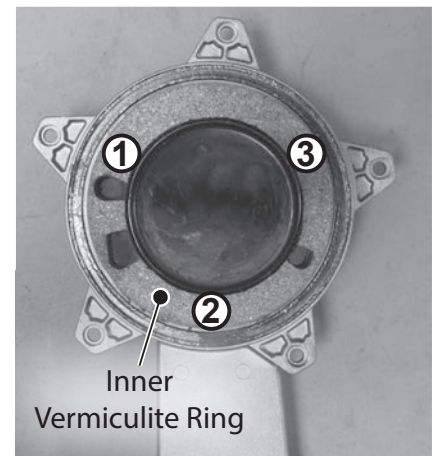

Figure 120 - Remove inner vermiculite ring
- 18** Locate the three (3) screws securing the inner vermiculite insulation ring to the burner door as shown in Figure 120. Use a Phillips screwdriver to remove screws. Place screws aside in a safe place for reinstallation.